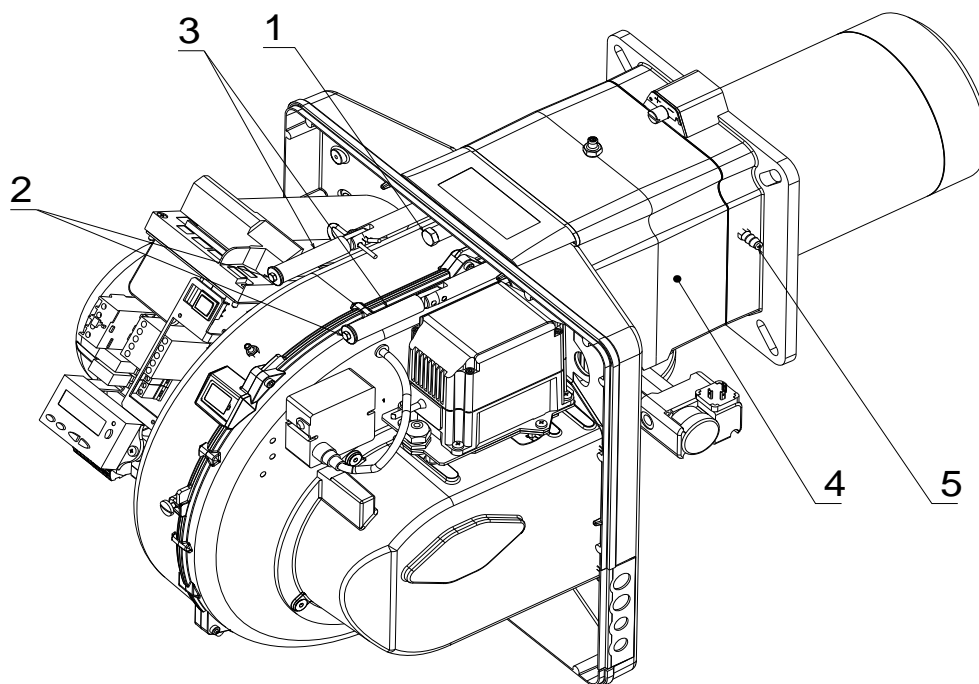

Fig. 18
- insert the probe and electrode cables, then slide the burner as far as the pipe coupling - burner in the position shown in Fig. 18;